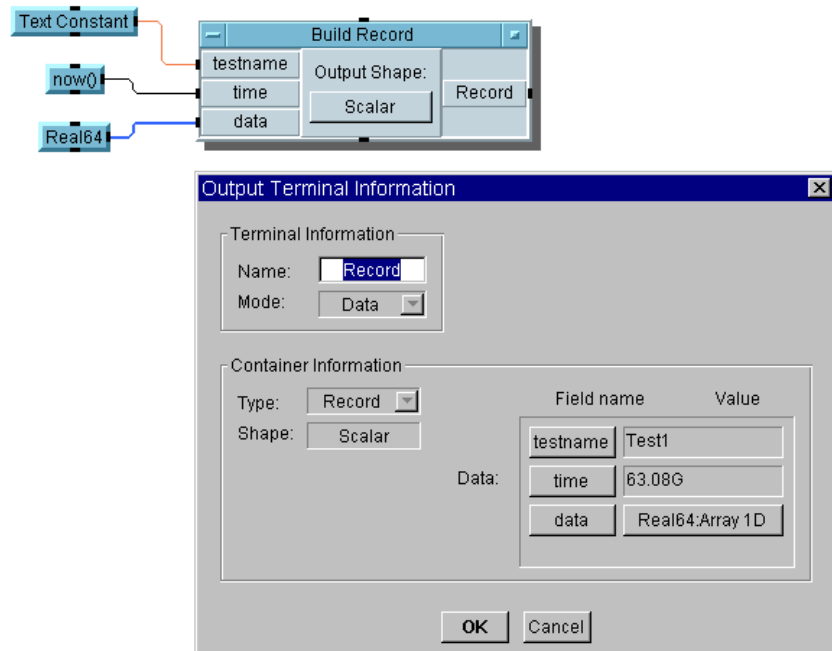

Figure 5-9. Output Terminal Information on a Record
7. Run the program. Double-click on the `Record` data output terminal to examine the record. It should look like Figure 5-9.